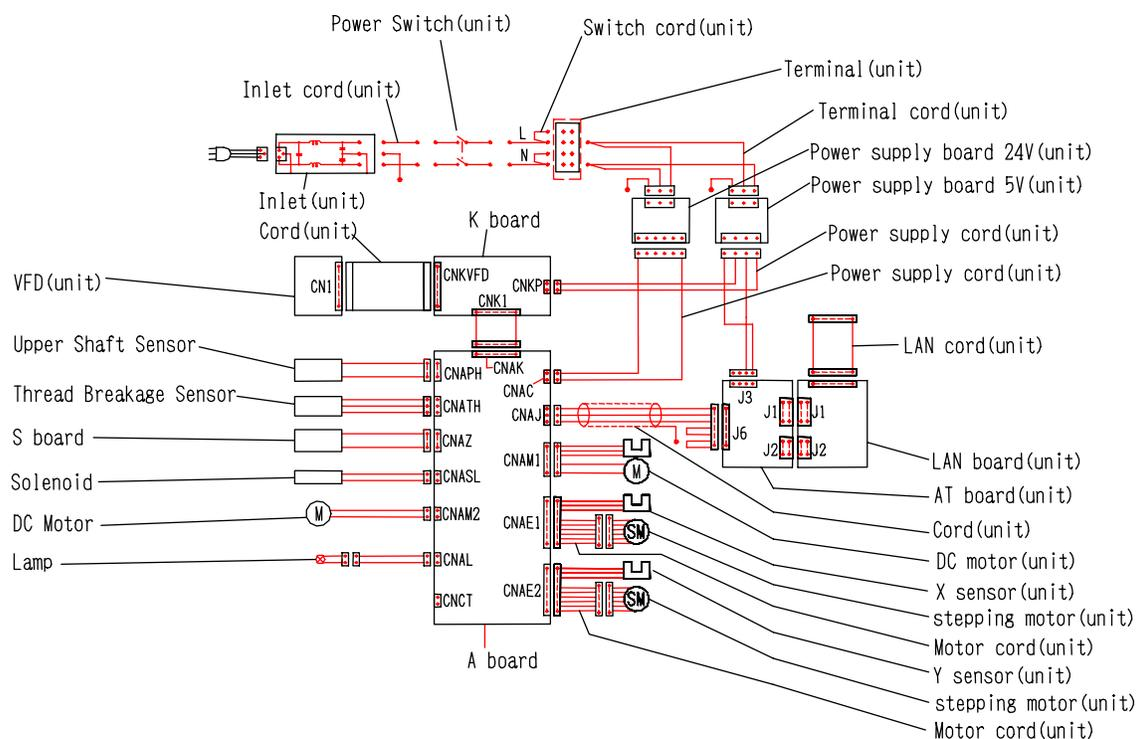

FIGURE 5-3
- I. Remove the connectors. Fig.5-3
I. Remove 3 connectors. Fig.5-3
I. Remove 2 connectors. Fig.5-3